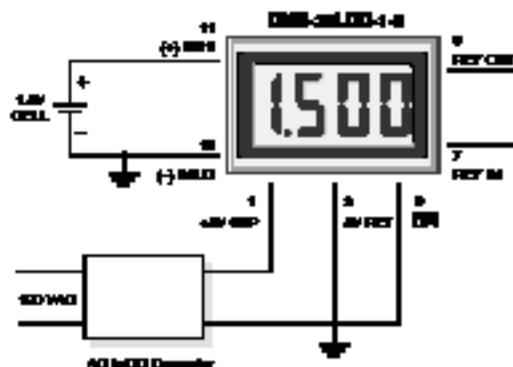
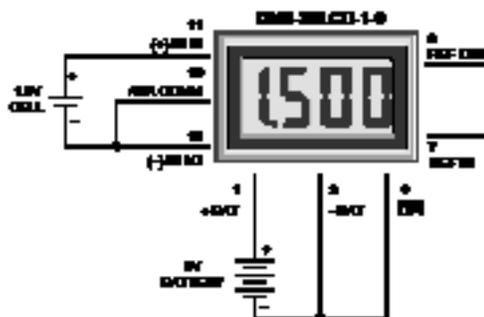

Figure 5. Floating Input Measurements (5V-Powered Models)
Figure 6. Floating Input Measurements (9V-Powered Models)
4. **Floating Signal Source Measurements:** Floating signals can be measured using the circuits shown in Figures 5 and 6. Figure 5 uses a 5V-powered meter. Figure 6 uses a 9V-powered meter. Connecting pin 10 (ANALOG COMMON) to (-) INPUT LO (pin 12) provides the reference point for the meter's input.